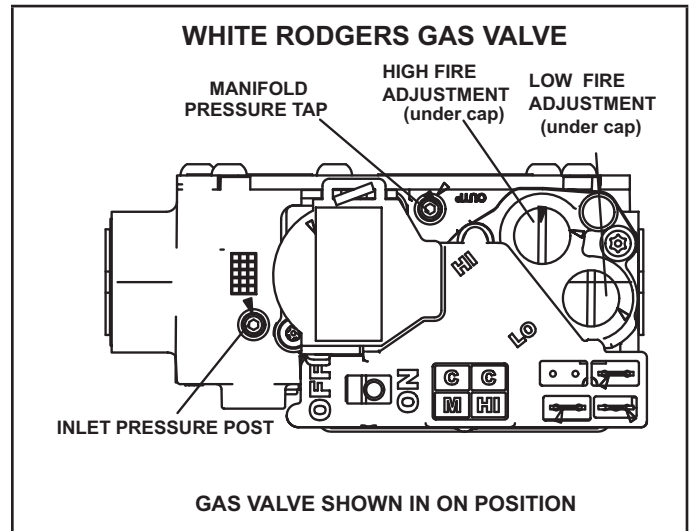

FIGURE 61
Gas Valve Operation (FIGURE 61)
- 6 - Move gas valve switch to OFF. See FIGURE 61.
- 8 - Move gas valve switch to ON. See FIGURE 61.
An inlet pressure post located on the gas valve provides access to the supply pressure. See FIGURE 61. Back out the 3/32 hex screw one turn, connect a piece of 5/16 tubing and connect to a manometer to measure supply pressure. See TABLE 26 for supply line pressure.
A manifold pressure post located on the gas valve provides access to the manifold pressure. See FIGURE 61. Back out the 3/32 hex screw one turn, connect a piece of 5/16 tubing and connect to a manometer to measure manifold pressure.
- 5 - If necessary, make adjustments. FIGURE 61 shows location of high fire and low fire adjustment screws.